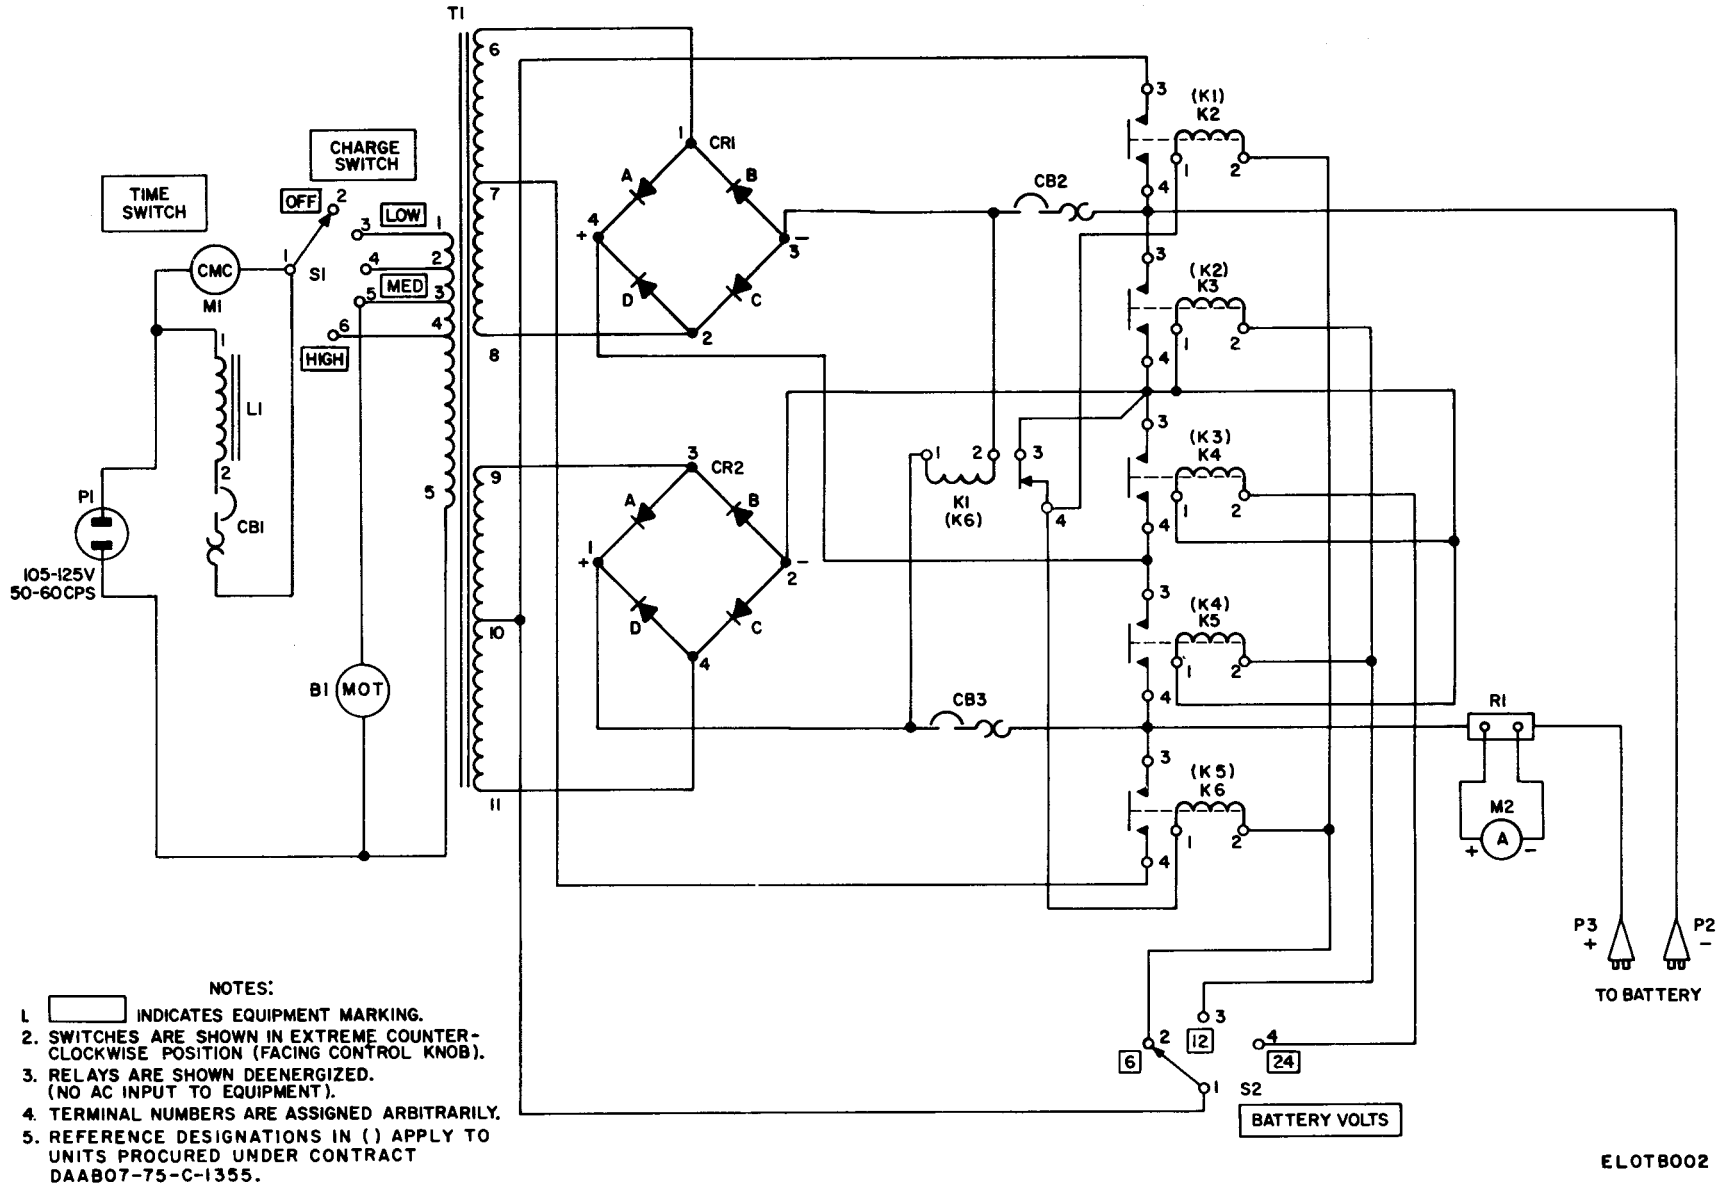

Figure 2-2. Charger, Battery PP-1660/G, Schematic Diagram.
(1) Loose or broken connections and defective wiring.
(2) Loose or missing mounting hardware and broken or otherwise physically damaged parts.
(3) Blistered, buckled, or discolored rectifier plates.
(4) Evidence of overheated transformer, reactor, or blower motor.
d. Tests. Use Multimeter AN/USM-223 or TS-352/U to perform point-to-point continuity tests and to make voltage and resistance measurements (para 3-9 and 3-10) to determine the condition of individual parts. Refer to the schematic diagram (fig. 2-2 and 2-3) to identify circuit components and test point and to the wiring diagram (fig. 3-6 and 3-7) for point-to-point wiring and connection points.